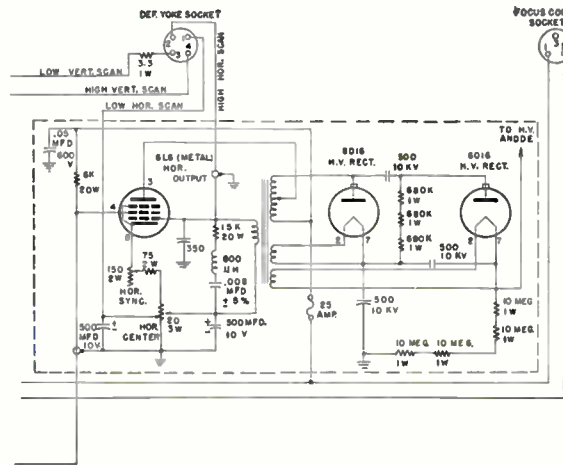

Fig. 8. Original horizontal sweep output circuit used in Capehart-Farnsworth Model 651P. The components within the broken line were replaced.
2. The horizontal sweep transformer, 6L6 and both 1B3-GT tubes, together with all of the component parts shown within the broken lines in Fig. 8, were removed. These included the bakelite panel containing several resistors and high-voltage capacitors as well as the horizontal sync and horizontal centering controls which were mounted on the rear apron of the chassis.